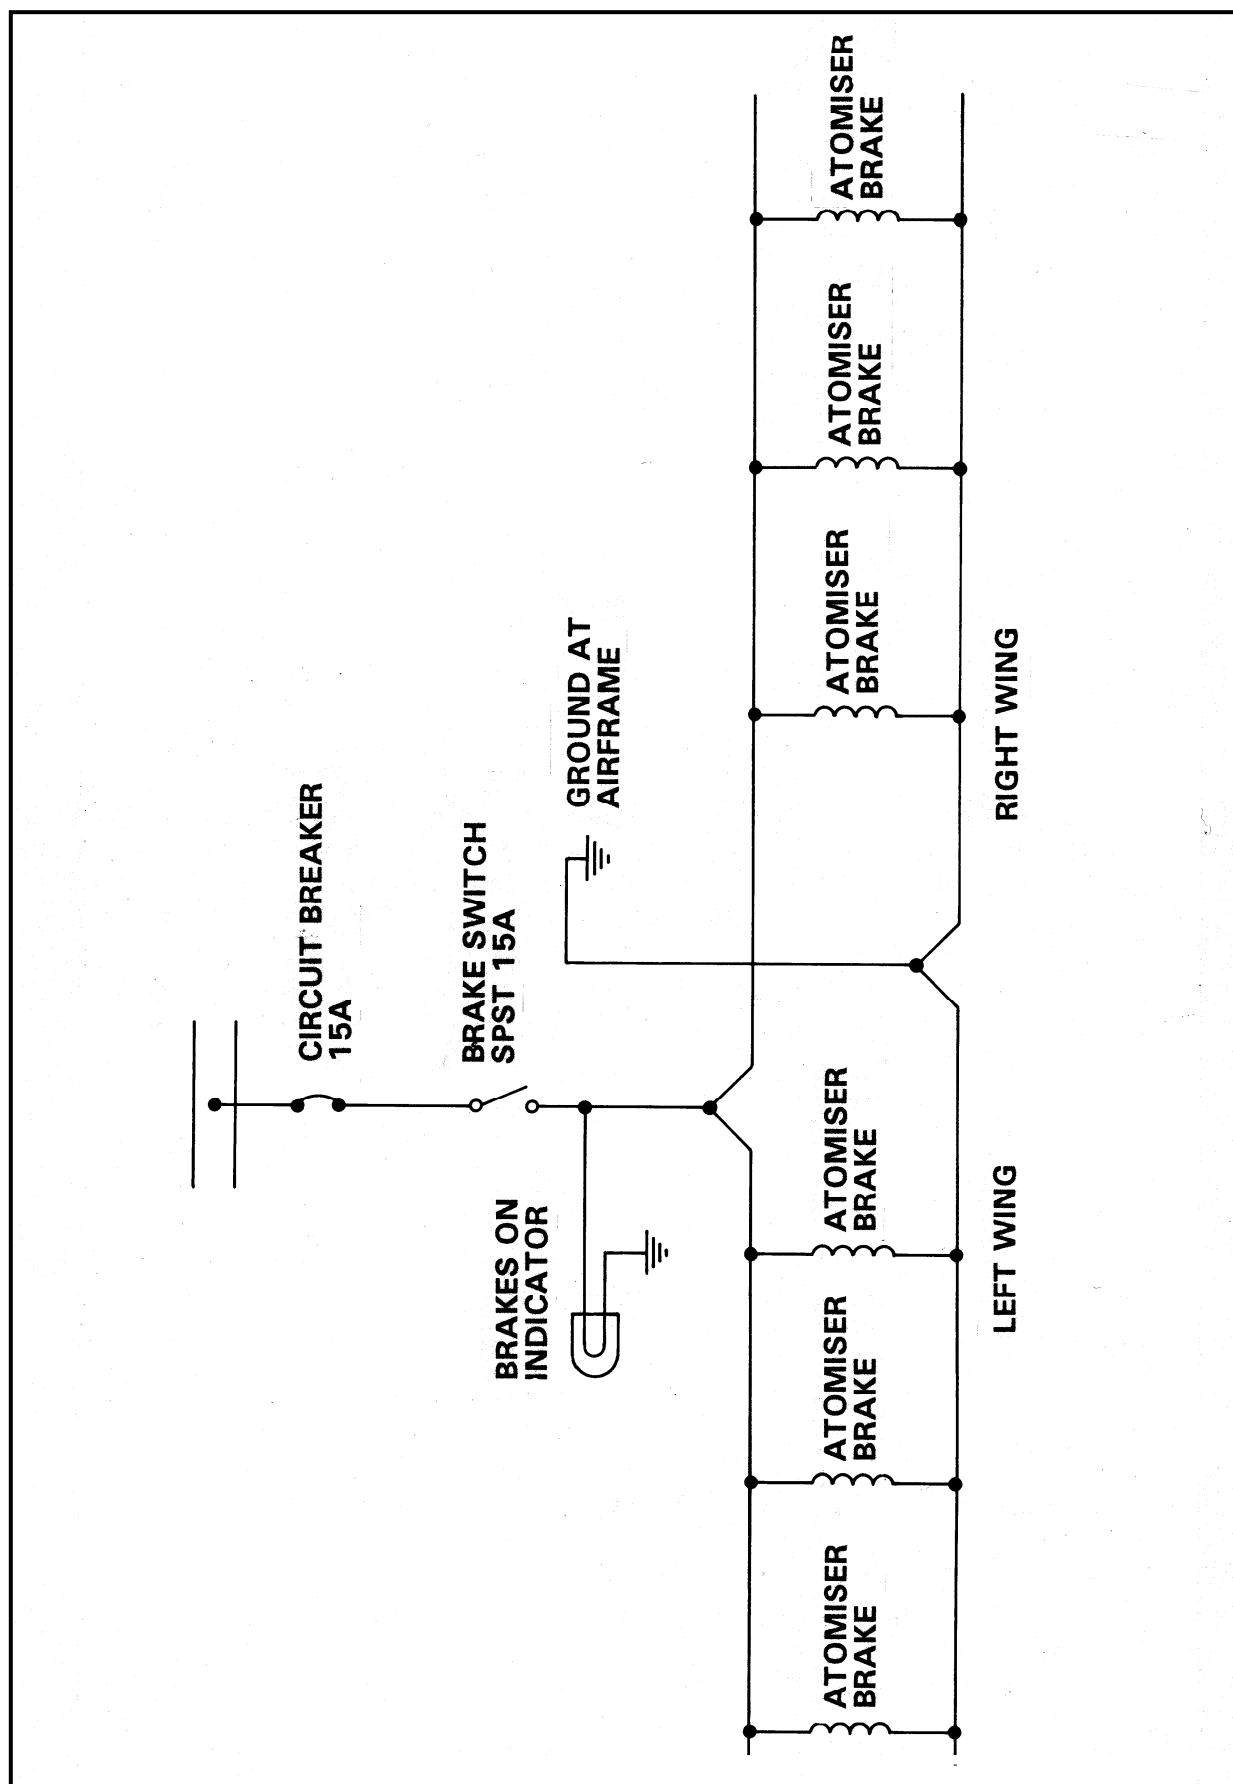

Fig. 3 – Wiring Diagram for Electric Brake System
5. Connect the atomiser brakes, control switch, indicator light and circuit breaker as shown in Fig. 3. Use 16 gauge wire or heavier for all connections. The ground for the atomiser brakes must be made at the airframe and not at the boom.